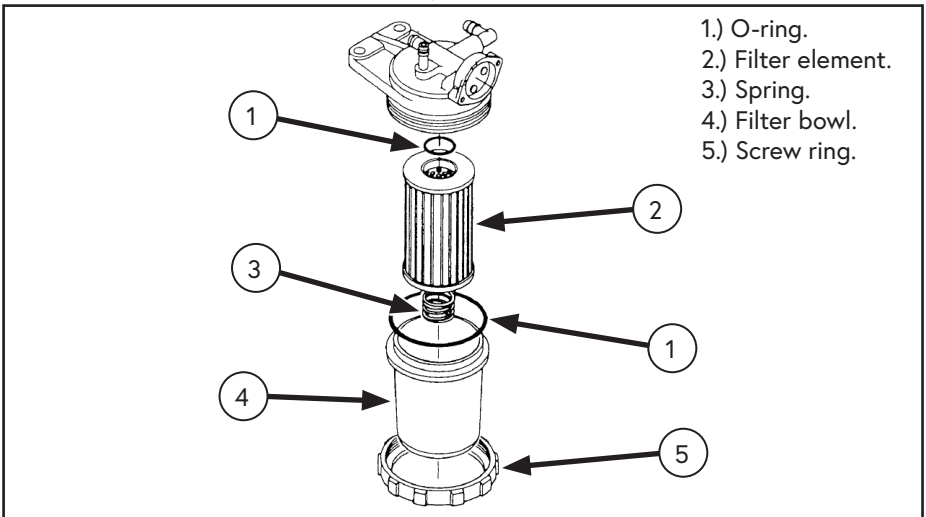

Figure 41 — Fuel bowl assembly
- ☐ Install the new fuel filter element (Figure 41).